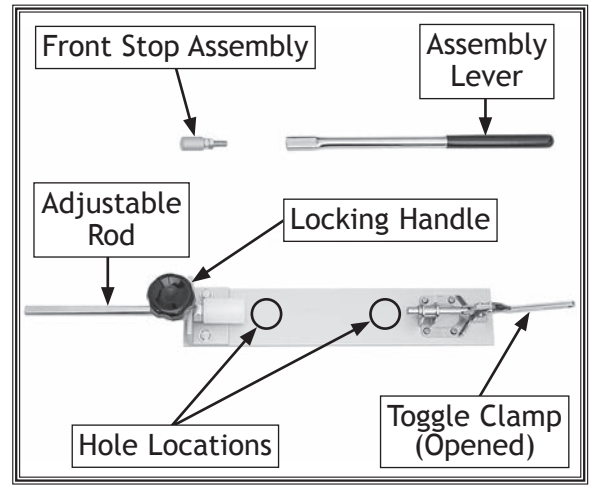

Figure 3. Hole locations on pen press base.
1. Open pen press toggle clamp, and remove assembly lever and front stop assembly (including threaded stud and hex nuts), as shown in **Figure 3**.
2. Loosen locking handle and slide adjustable rod to fully open position (see **Figure 3**).
3. Drill two holes—slightly larger in diameter than mounting fasteners—in center section of pen press base (see **Figure 3**).